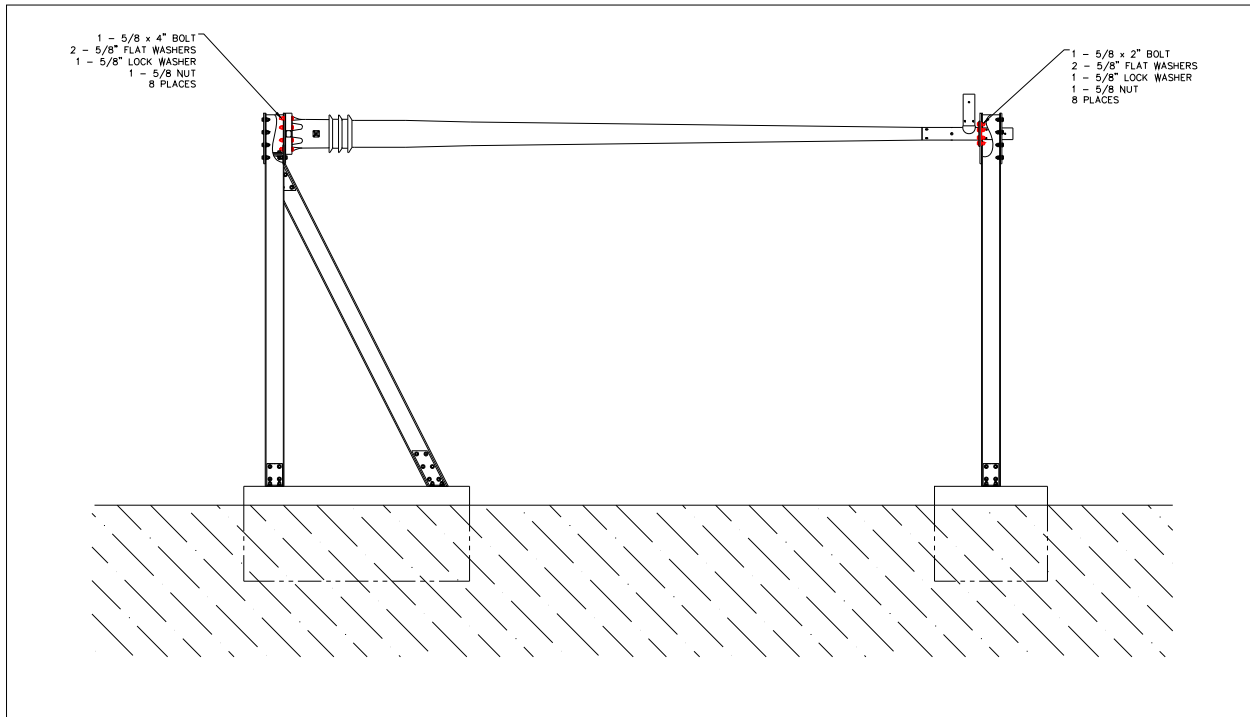

Figure 4-13 Assembly steps 15 and 16
- (15) Securely fasten the base side of the antenna to the three-legged structure using eight 5/8" x 4" bolts. Apply a few drops of thread-locker (Item 23, Table 2-1) to the threads before assembly. Refer to Figure 4-13.
- (16) Securely fasten the joint side of the antenna to the two-legged structure using eight 5/8" x 2" bolts. Apply a few drops of thread-locker (Item 23, Table 2-1) to the threads before assembly. Refer to Figure 4-13.
- (17) Securely tighten all hardware previously only "loosely" installed. Apply a few drops of thread-locker (Item 23, Table 2-1) to the threads before assembly.